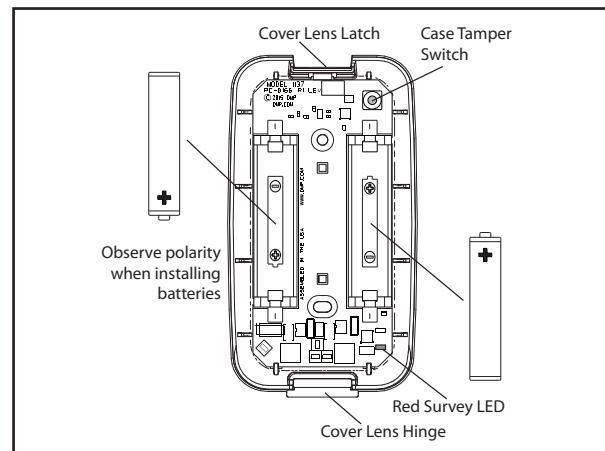

Figure 6: PCB and Battery Location
The case tamper switch is pressed when the reflector of the 1137 is secured to the base. When the reflector is removed, the 1137 sends a Tamper Trouble message to the Central Station (See Figure 6 for case tamper switch location).
2. Observing polarity, place the AA Energizer Ultimate Lithium batteries in the holders and press into place. When the batteries are installed with the proper polarity, the RED Survey LED on the PCB will immediately begin to flash. If the RED Survey LED does not begin to flash, the batteries are not installed with the proper polarity. They must be removed and installed correctly (see Figure 6).